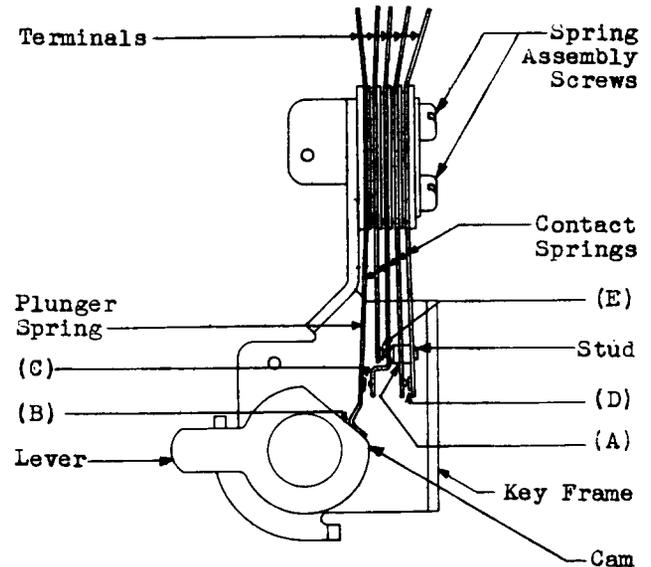

Fig. 2 - No. 570A Key
- 2.03 Stud Clearance - Fig. 2 (A): The stud shall not rub against the spring through which it passes. Gauge by eye and feel.
- 2.04 Plunger Spring Tension - Fig. 2 (B): With the key unoperated, the plunger spring shall rest against the cam but the tension against the cam shall be
- 2.05 Contact Separation - Fig. 2 (C): The separation between any pair of contacts normally open or between any pair of contacts that are opened when the key is operated shall be
- 2.06 Contact Follow - Fig. 2 (D): The contact follow for the contacts of the break spring combination shall be
- 2.07 Contact Pressure - Fig. 2 (E): The contact pressure of the normally closed contacts shall be